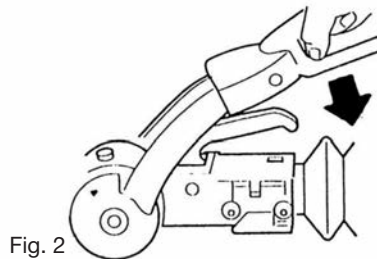

Fig. 2
- Press the red stabilising lever down. The AKS is now ready for the road. **(Fig. 2)**
Do not attach the clip directly to the designated point (Fig 2). The clip is not sufficiently strong enough for use in this way.